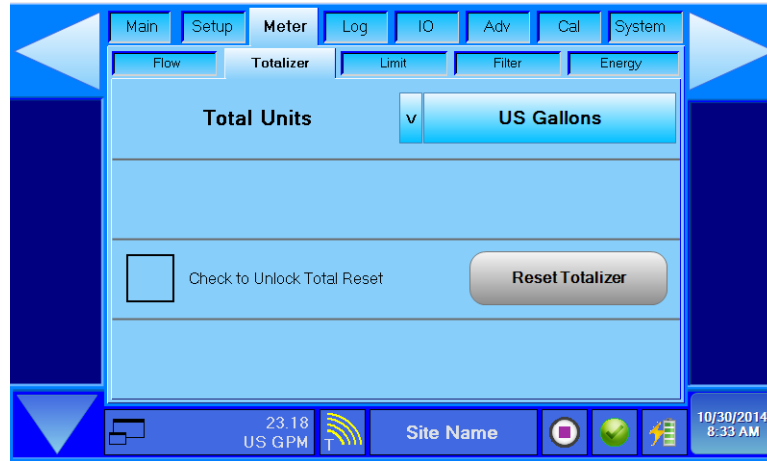

Figure 67: Totalizer setups
1. Press **Check To Unlock Total Reset** box (See Figure 67). A checkmark appears in the box. The *Reset Totalizer* option becomes active.